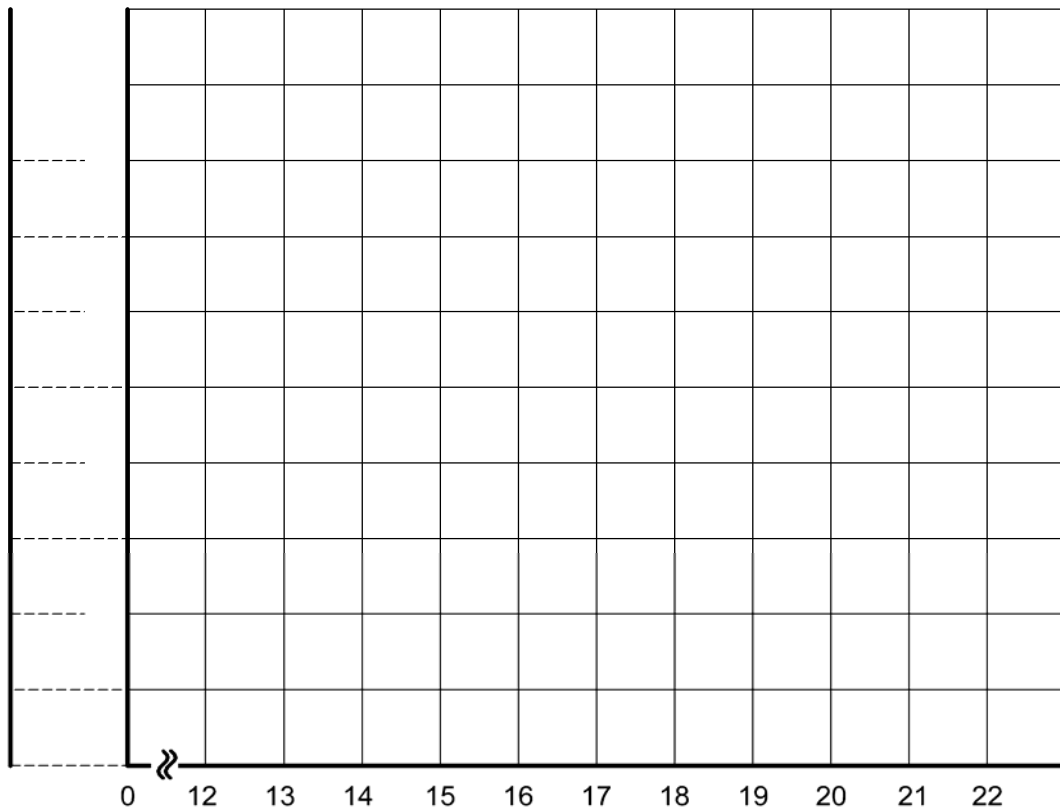

Fig. 3.5.2.3: Characteristics,  $I = f(U)$  and  $R = f(U)$  of the VDR
- Also, plot the values for  $U$  and  $R_{VDR}$  in the chart (Fig. 3.5.2.3) and draw the characteristic  $R = f(U)$  by joining the points plotted.